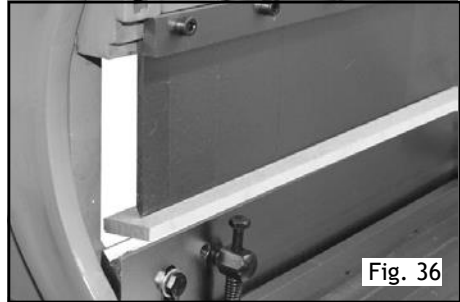

Fig. 36
7. Place a thin piece of wood on the finger receiver, as shown in Figure 36, then reinstall the fingers so that they rest on the wood. Make sure the tops of the fingers are between the gib and the casting.